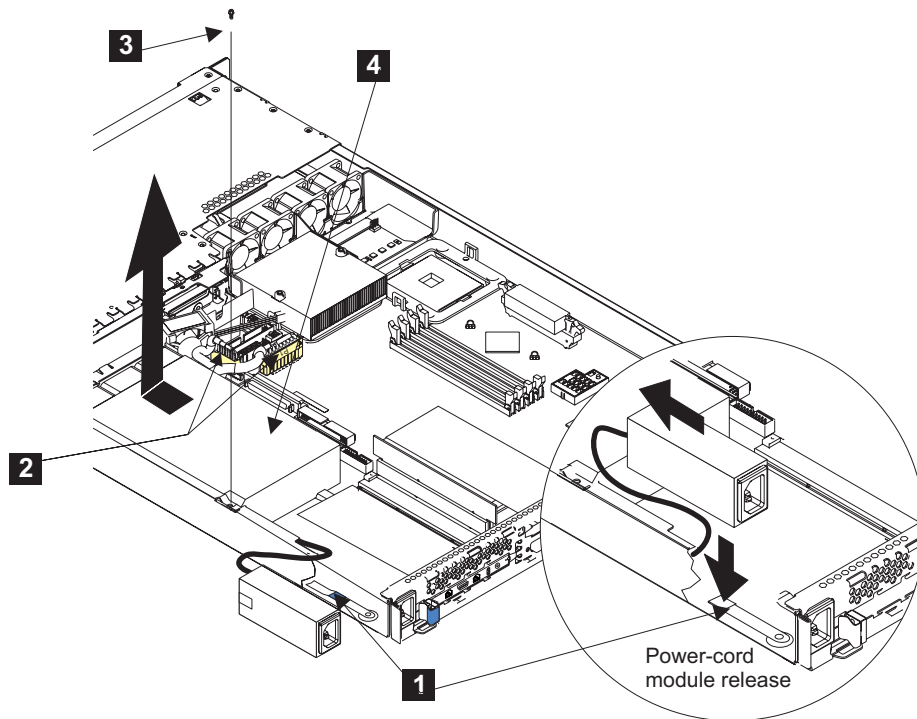

Figure 103. Removing the SAN Volume Controller 2145-4F2 power supply
5. Press down on the clip **1** at the front of the power-cable module and slide the module toward the front of the SAN Volume Controller 2145-4F2 until the alignment tab is free of the slot that is on the side of the SAN Volume Controller 2145-4F2. See Figure 103.